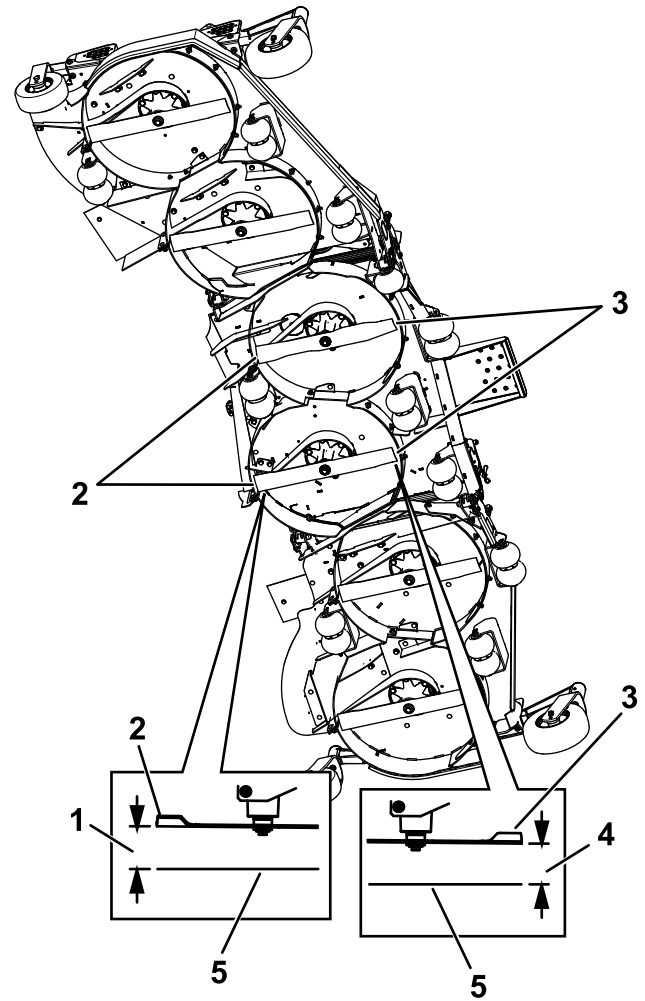

Figure 79
10. Measure from the level surface to the front tip of the left and right center deck blades (Figure 79). The measurement should read 102 mm (4 inches).